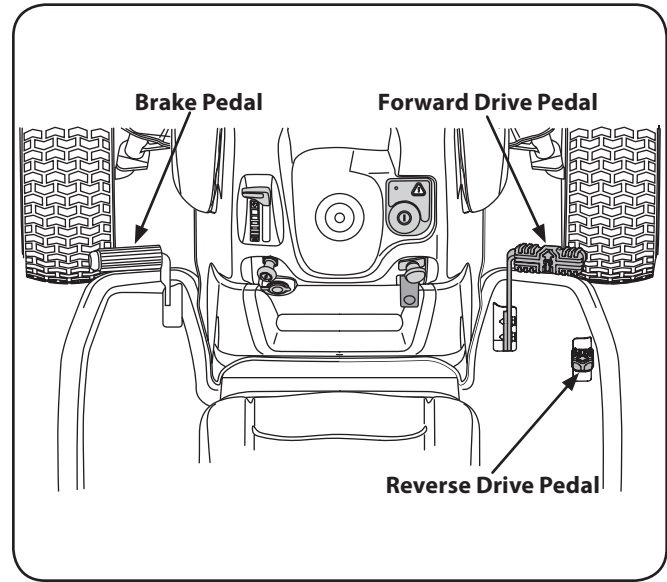

Figure 5-2
2. To travel forward, slowly depress the forward drive control pedal until the desired speed is achieved. See Fig. 5-2.
3. To travel in reverse, check that the area behind is clear, then slowly depress the reverse drive control pedal until the desired speed is achieved. See Fig. 5-2.